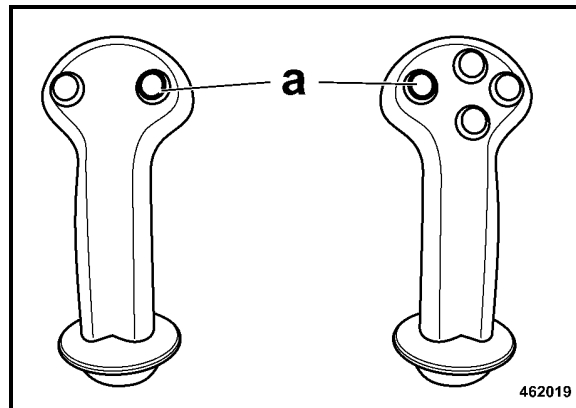
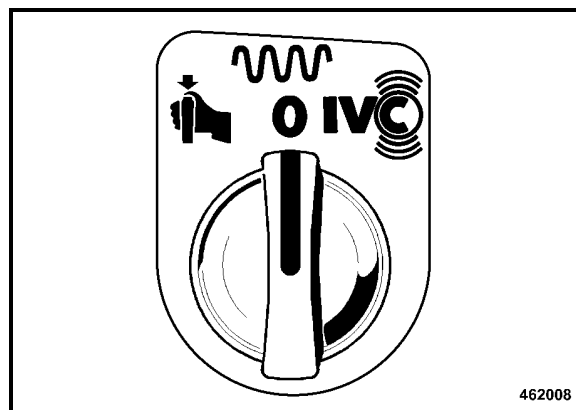

Fig. 74
Fig. 75
- Actuate the vibration push button (a) (Fig. 74) in left¹ or right hand travel lever only after shifting the travel lever to the desired travel direction.
- Press the vibration push button (a) (Fig. 74) again or turn the rotary switch for vibration pre-selection to position "0" (Fig. 75).